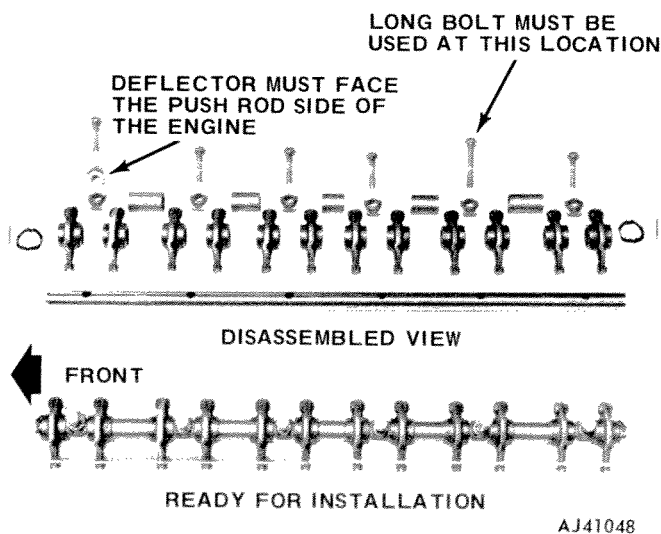

Fig. 1A-8 Rocker Arms and Shaft Assembly
(1) Assemble rocker arms, spacers, retainers, retaining bolts, and oil deflector on rocker arm shaft in same order as removed (fig. 1A-8).
(2) Use two rubber bands to hold rocker arms in position as shown in figure 1A-8 and install rocker arm and shaft assembly to cylinder head. Make certain push rods are correctly aligned with rocker arms.
(3) Work from center of rocker arm shaft outward, and tighten to 21 foot-pounds torque.
(4) Install cylinder head cover and gasket.